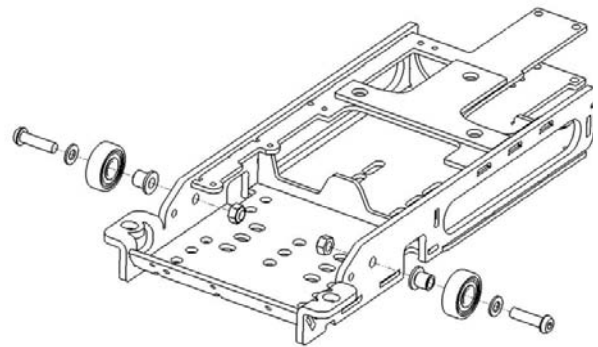

Fig. 14. Remove the bearings, they are mounted with one screw each.
15. Remove the bearings, they are mounted with one screw each. See fig. 14.